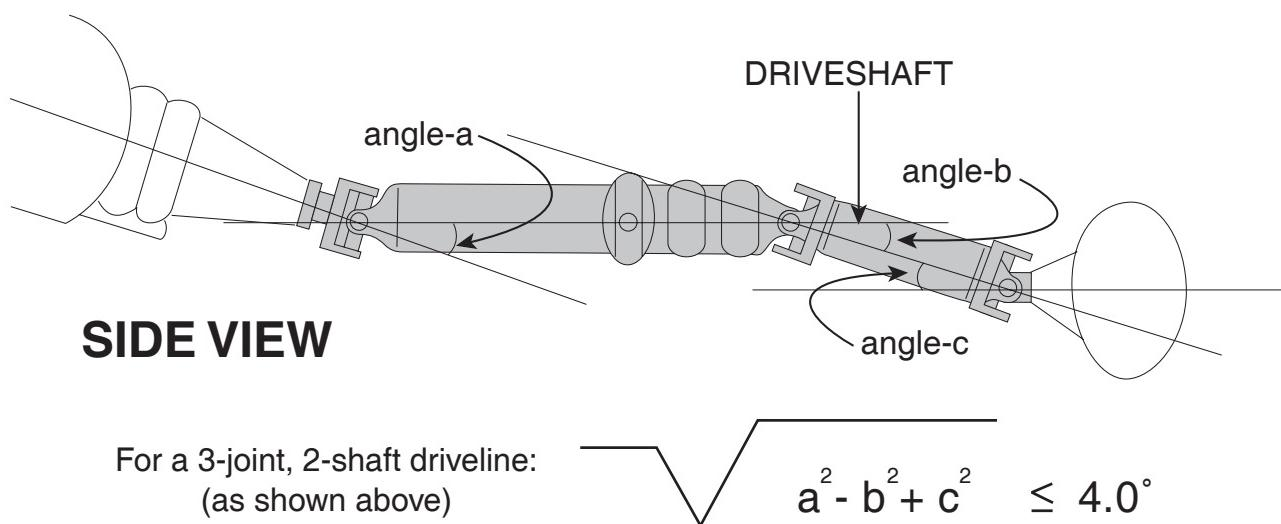

Figure 21
- b. Condition #2: When added together, the operating angles throughout the driveline MUST cancel. The operating angles at either end of a shaft should be within  $1^\circ$  of each other or at least satisfy the following formula in order to provide adequate cancellation (Figure 21).